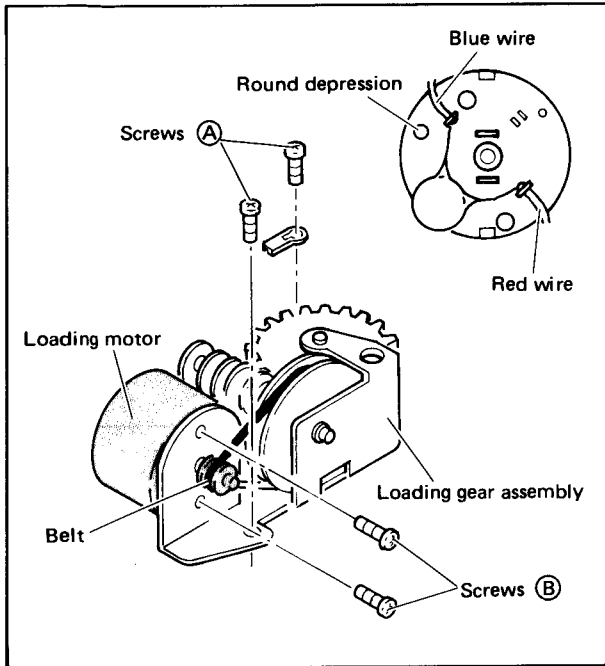

Fig. 4-19 Loading motor replacement
2. Take out screws (A) and remove the loading gear assembly as shown in Fig. 4-19.
4. Disengage the belt from the pulley, take out screws (B) and remove the loading motor from the loading gear assembly.